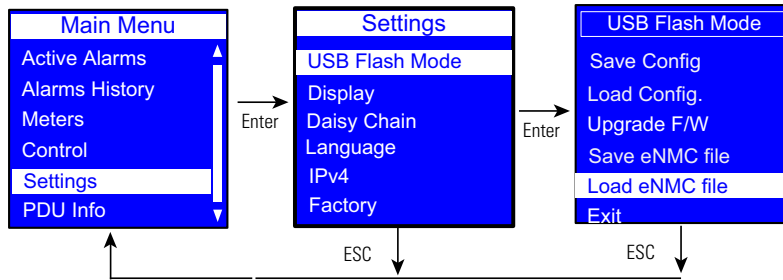

Figure 57. Example Load NMC File
4. Select Load eNMC file, then click **OK** to upload the PDU hardware configuration file to the eNMC (see Figure 57).